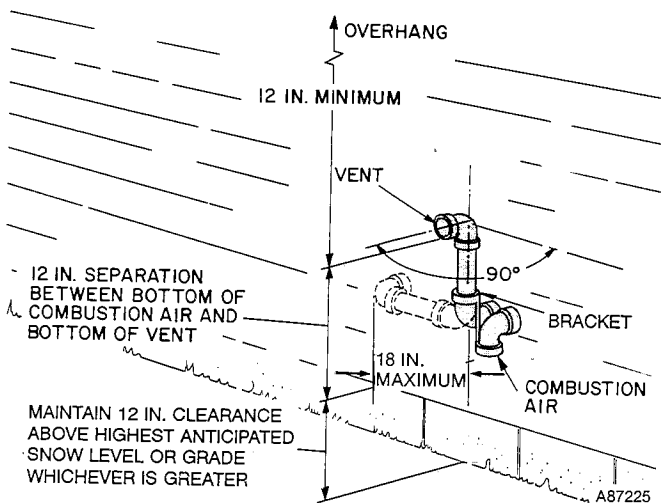

Fig. 3—Sidewall Termination
Install kit as follows when combustion-air and vent pipes exit through sidewall 12-in. or more above highest anticipated snow level and grade. See Fig. 3.
3. Install elbows as shown in Fig. 3. Clean them and apply cement using procedures described in Combustion-Air and Vent Piping.
4. Install bracket as shown in Fig. 3.
5. Position vent-pipe assembly, maintaining a 12-in. separation between vent-pipe outlet and combustion-air inlet. Cement vent pipe in elbow as shown in Fig. 3.
ration between vent-pipe outlet and combustion-air inlet. Cement vent pipe in elbow as shown in Fig. 3.
6. For applications using vent-pipe option indicated by dashed lines in Fig. 3, rotate elbow 90 degrees from position shown in Fig. 3.